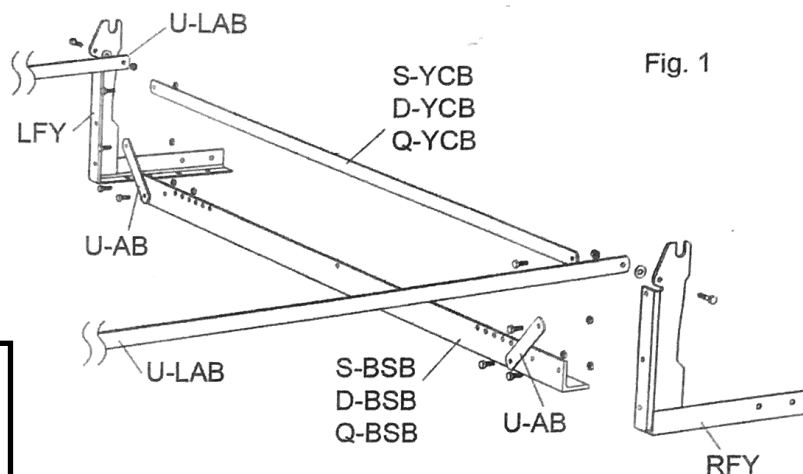

Fig. 1
4. LEG ACTUATOR BARS: Attach leg actuator bars (U-LAB) to Floor Yokes using 1" bolts (UMB75), nylon washers (UMWNY) and nylon insert locknuts (UMNNYL). Hand-tighten until later. Fig. 1 & 2.